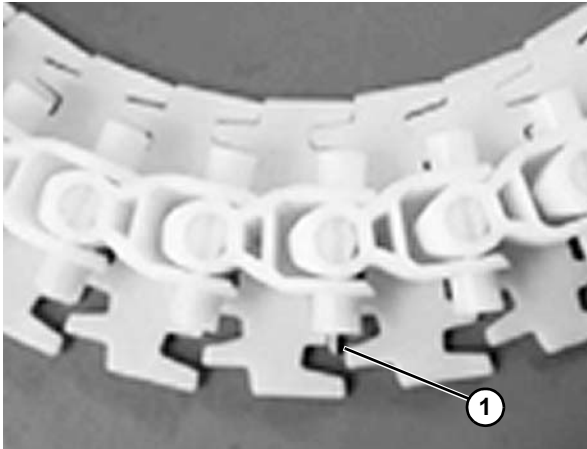

Figure 51
4. Check that the chain is flexible in the joint and that the pin does not stick out or go through the other side (**Figure 51, item 1**).